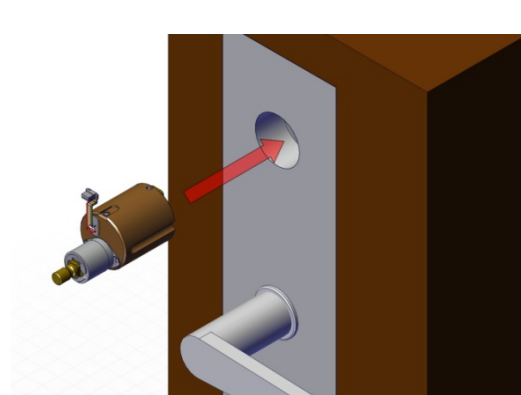
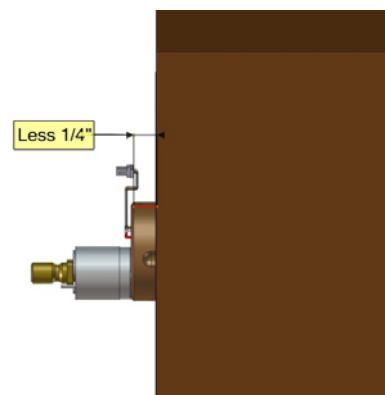
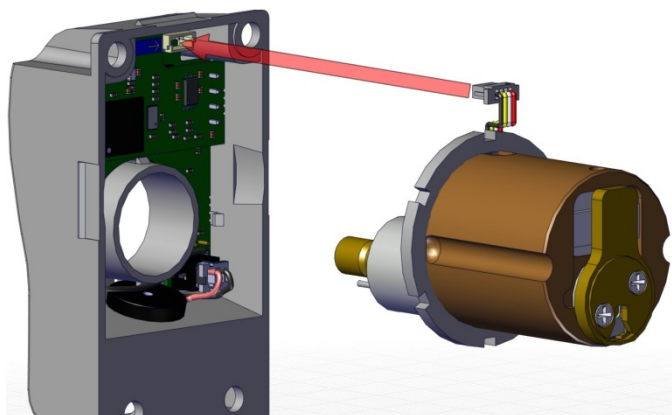
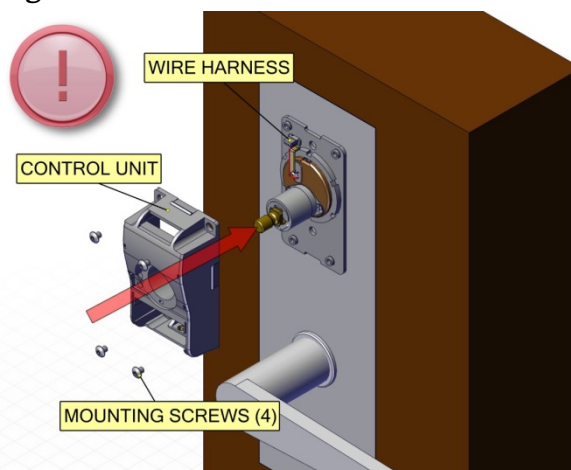

Fig. 5
Fig. 6
Fig. 12
Fig. 13
Screw the M100 into the cylinder mounting hole on the mortise hardware (Fig. 5). It is important to not over-tighten, or to keep too loose on the door. The face of the M100 cylinder should stand proud of the escutcheon approximately 3/16"-1/4". Please also see (Fig. 12) before proceeding (Fig. 6).
Step 5: Connect control unit to wire harness and install 4 mounting screws (Fig. 12 and Fig. 13).
Thumbturn is not out far enough refer to Step 4, Fig. 12.
Cylinder is protruding out to far (included are optional spacers for proper spacing of cylinders) refer to Step 4, Fig. 12.